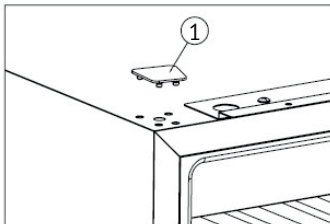

Figure 3
➔ Remove the germinal lid (1) (Figure 3).